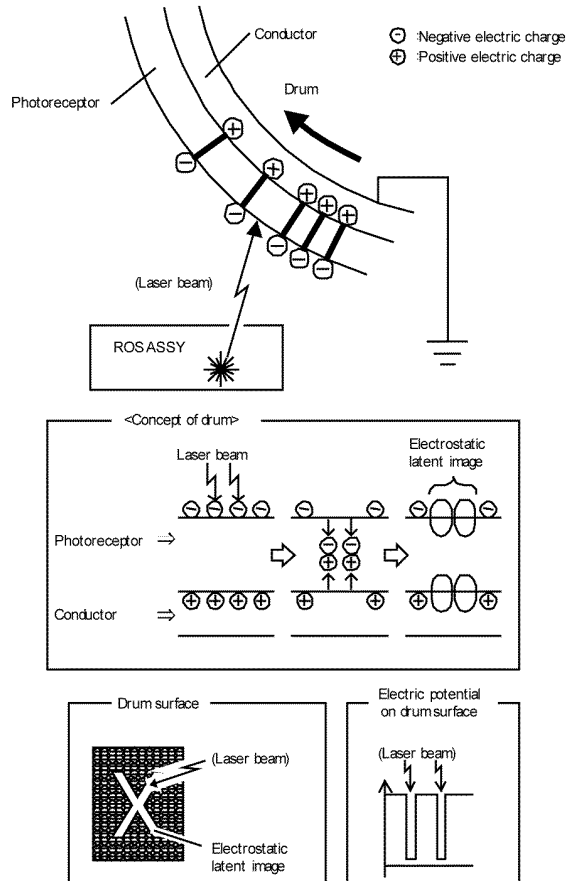

Figure 5 Latent image formation
- The Raster Output Scanner (ROS) assembly interprets printing data signals from the ESS PWBA then irradiates the laser beams onto the surface of the drum to create a latent image. The laser scans from one end of the drum surface to the other while being turned off and on forming a single line of a latent image. The laser diode only lights up for areas of the drum to be developed by toner. The drum surface irradiated by the laser beams becomes a conductor, and the negative charge on the drum surface flows to the positive side. The charges cancel each other out causing the potential on the drum surface to drop. Areas on the drum surface where the potential drops become the electrostatic latent image. The scanner motor turns on when it receives a signal, and turns off after printing ends. The motor remains off in the standby and power-saving states, Figure 5.